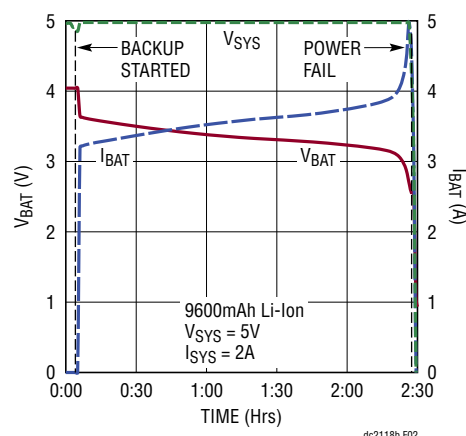

Figure 2. Typical Battery Discharge Cycle
Demonstration circuit 2118B is easy to set up to evaluate the performance of LTC4040. Refer to Figure 2 for proper measurement equipment setup and follow the procedure below.
- Total backup runtime is based on battery capacity, circuit efficiency, and system load. Figure 2 shows an example discharge curve with constant current system load.